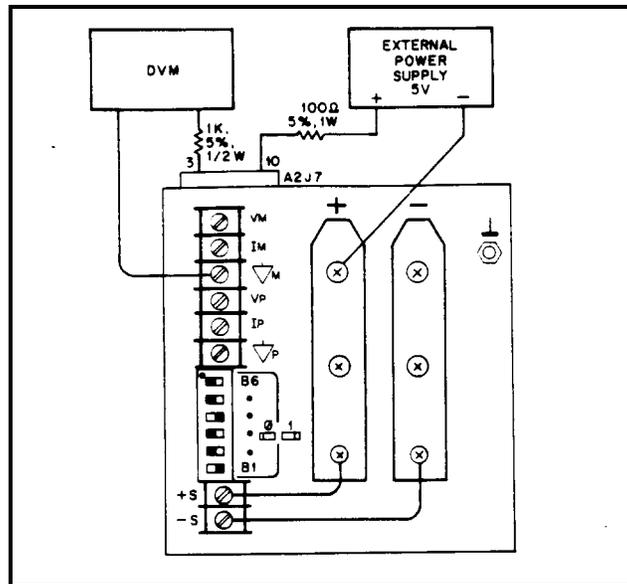

Figure 2-2. Remote Readback Zero And CV Zero Calibration Setup
- Connect an external supply to the power supply as shown in Figure 2-2.